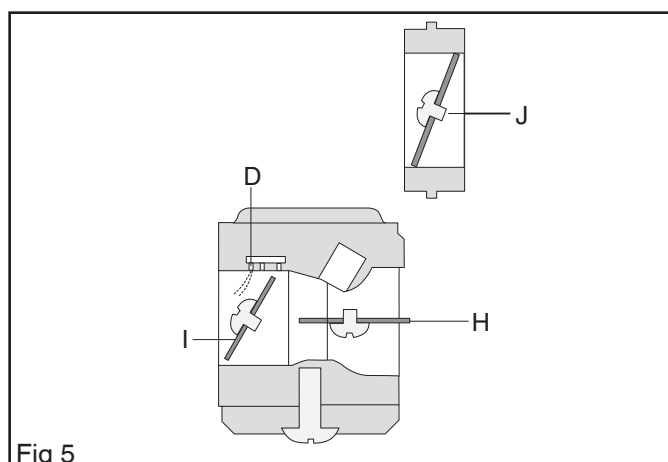

Fig 5
In the idling mode (see Figure 5) the throttle valve (I and J) is closed and the choke valve (H) is open.
Air is sucked in through an aperture in the throttle valve and a small amount of fuel is supplied through the diffuser jet (D). (see Figure 5)